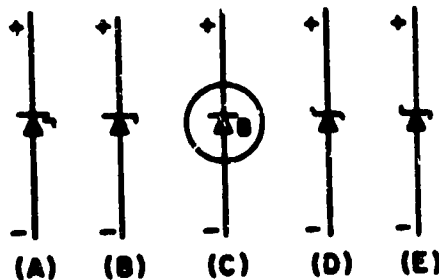

Fig 3-4. Schematic symbols for Zener diodes.
Some of the symbols used to represent Zener diodes are illustrated in views (A) through (E) of figure 3-4. Note that the polarity markings indicate electron flow is with the arrow symbol instead of against it as in a normal PN-junction diode. This is because breakdown diodes are operated in the reverse-bias mode which means the current flow is by minority current carriers.